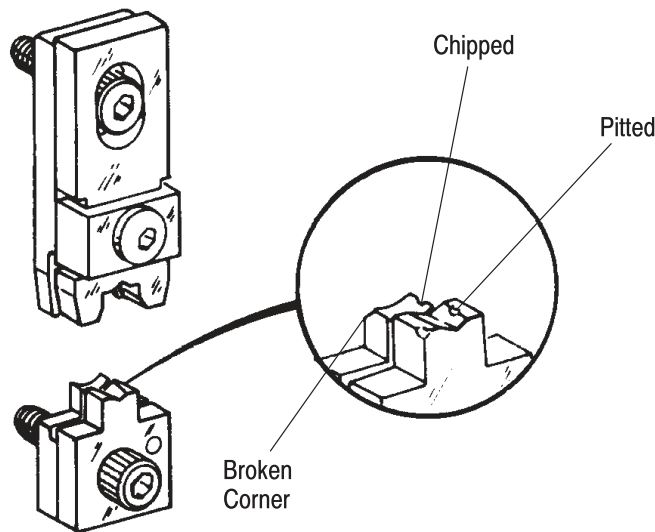

Figure 13
3. Visually inspect the die crimping surfaces for flattened, broken, or chipped conditions. Worn or damaged crimping surfaces are objectionable and can affect the quality of the crimp. Refer to Figure 13 for examples of possible damage.